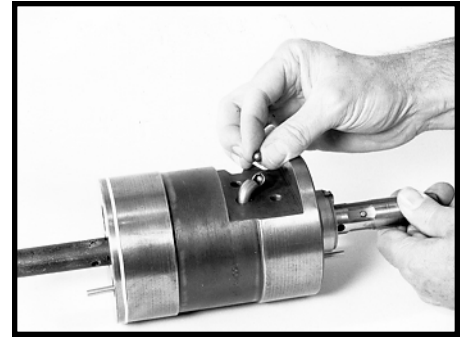

Figure 107
7. Assemble 27 steel balls (42) into the ball return guide through the hole provided in the top of the guide. As you drop the balls into the guide, rotate the worm shaft (17) to pull the balls down into the ball track grooves. SEE FIGURE 107.